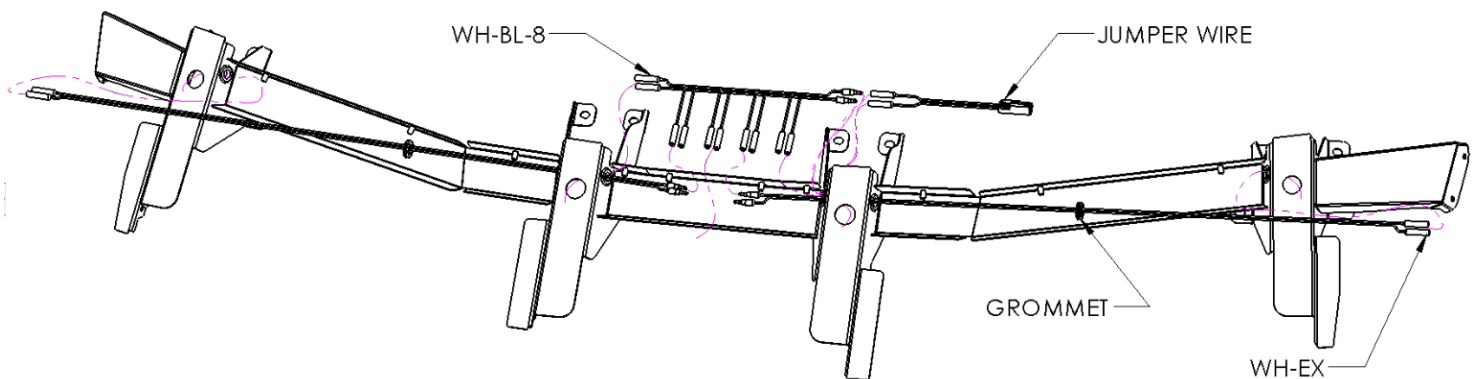

Figure 7
- d. Connect wire as shown (see figure 7 & 8).